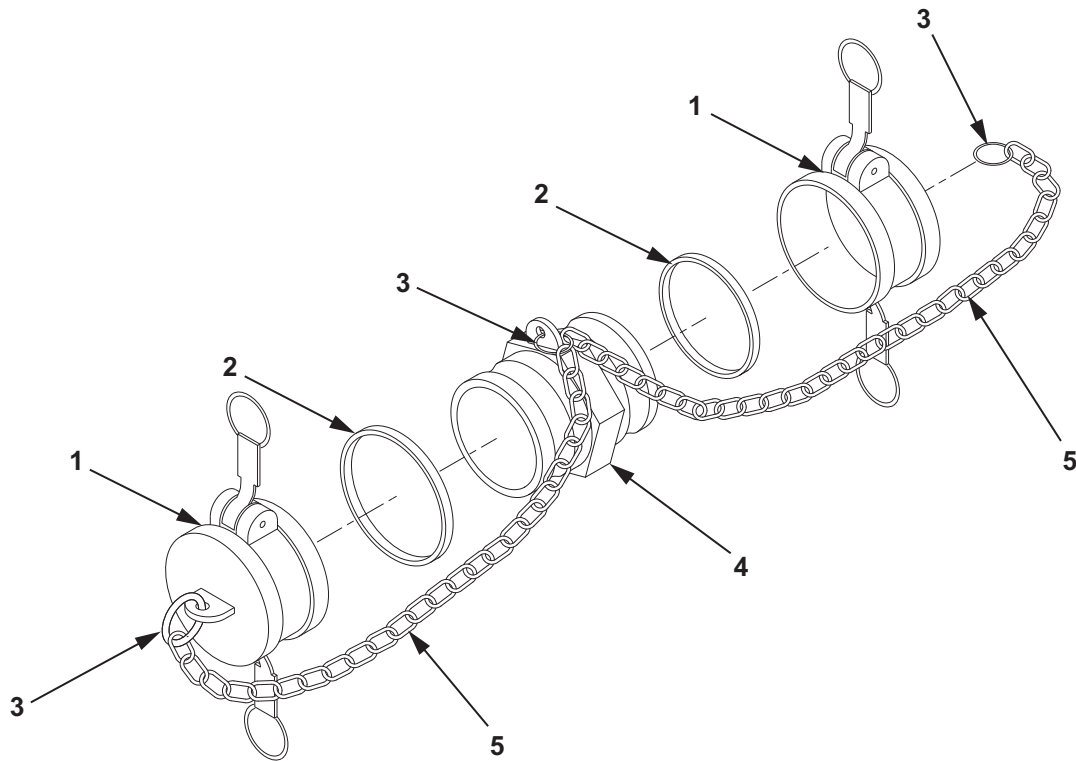

Figure 2. 4 In. Double Male Adapter Assembly.
1. Install four split rings (Figure 2, Item 3) on chains (Figure 2, Item 5).
2. Install split rings (Figure 2, Item 3) on dust caps (Figure 2, Item 1) and adapter assembly (Figure 2, Item 4).
3. Install new gaskets (Figure 2, Item 2) in dust caps (Figure 2, Item 1).
4. Install dust caps (Figure 2, Item 1) on adapter assembly (Figure 2, Item 4).